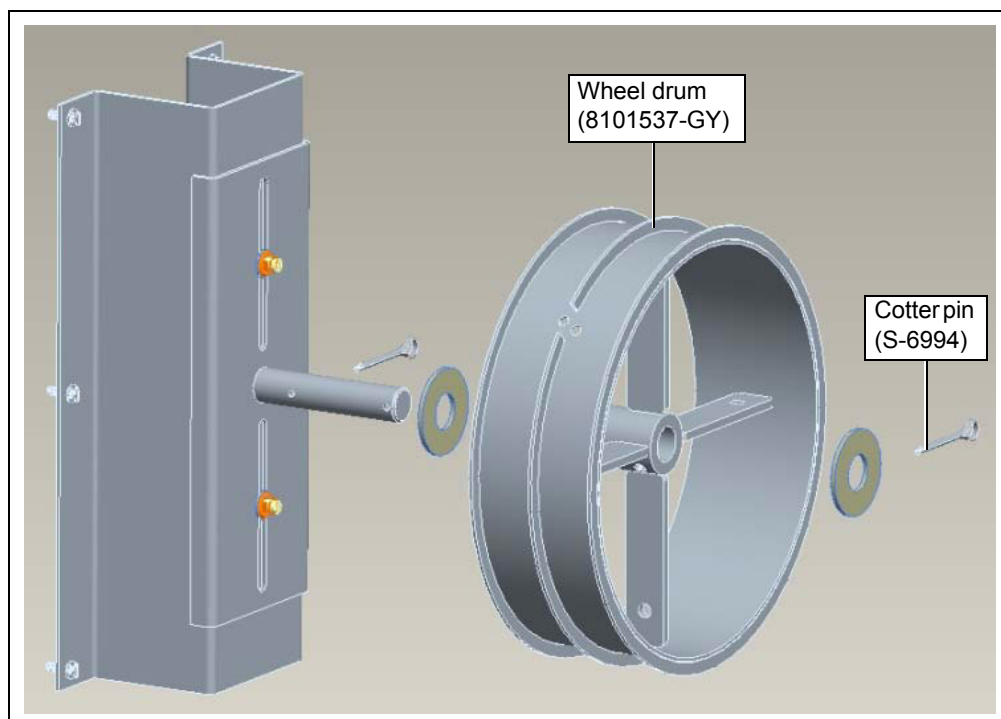

Figure 5
3. Assemble the control wheel to the shaft and secure with cotter pins. (See Figure 5.)